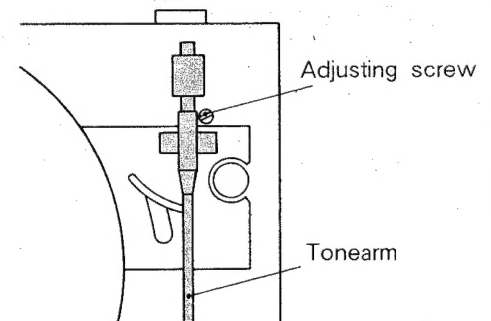

Fig. 8
- (b) Move the tonearm to the end of the record disc so that the end of the program is just occurring. Rotate the adjusting screw so that the ratchet trigger does not engage the turntable gear hook until complete record ends (Fig. 8).